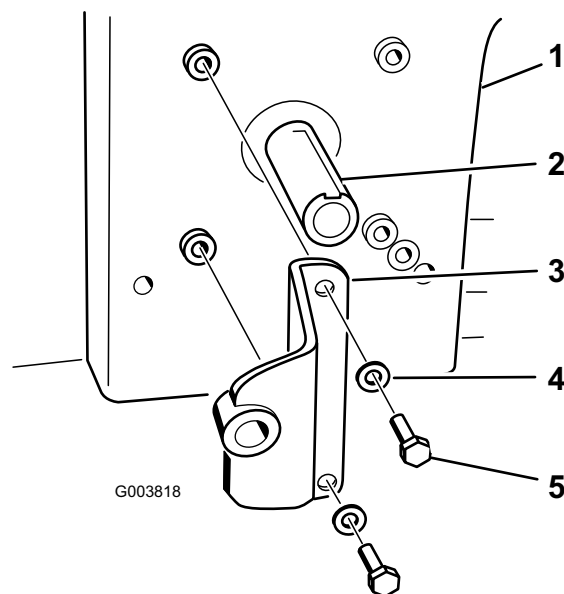

Figure 18
4. Install the pump bracket to the engine with 2 bolts (5/16 x 3/4 inch). Refer to Figure 18 for the correct position to install the pump bracket.